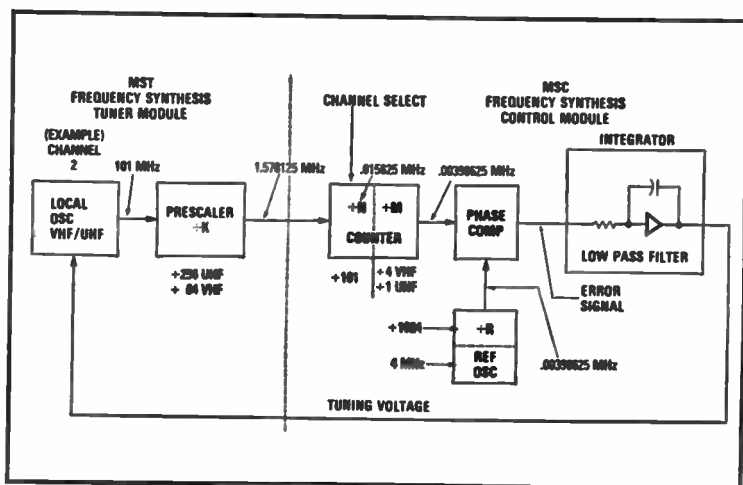

Fig. 1-7. Basic phase-locked loop operation.
Lets now look at a digital phase-locked loop or *frequency synthesis (FS)* phase-locked loop operation. See Fig. 1-7.